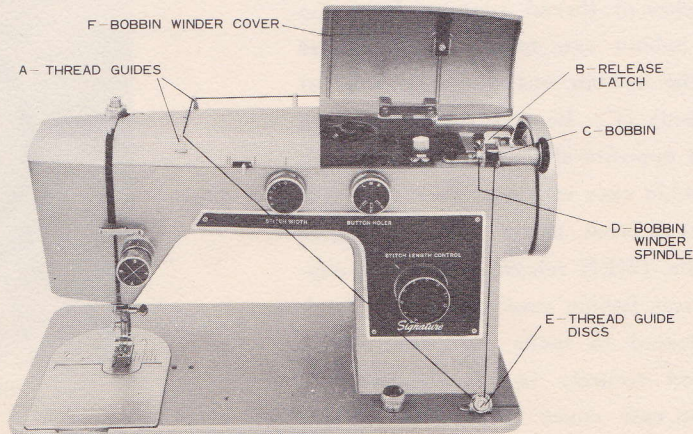
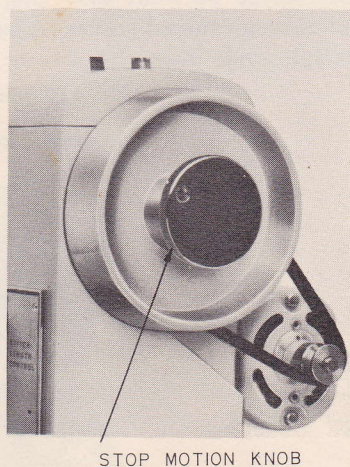

Fig. 2. Winding the Bobbin
Fig. 7 To Disconnect the Sewing Mechanism
1. To wind the bobbin disconnect the hand wheel from the stitching mechanism (Fig. 7, Page 5). By turning the stop motion knob (Fig. 7) toward you with the right hand (while holding the hand wheel with the left hand) disconnect the sewing mechanism for the bobbin winding operation. This is necessary to prevent damage to your machine while winding the bobbin.
2. Lower the presser foot (N) Page 2, by lowering the presser foot lever.
3. Now proceed as follows (see Fig. 2 below):
- a. Raise bobbin winder cover (F). Lift up bobbin winder unit and position as shown in Fig. 2.
- b. Lift release latch (B) and place bobbin (C) on bobbin winder spindle (D).
- c. Place thread on front spool pin, run thread through thread guides (A) and down through guide discs (E).
- g. When the bobbin is completely wound, the bobbin winder release latch (B), disengages the bobbin winder automatically.
- h. If bobbin does not wind evenly, loosen the screw holding the thread guide discs (E), and slide the thread guide disc bracket to the left or right, whichever is necessary to produce an evenly wound bobbin. Then re-tighten the screw.